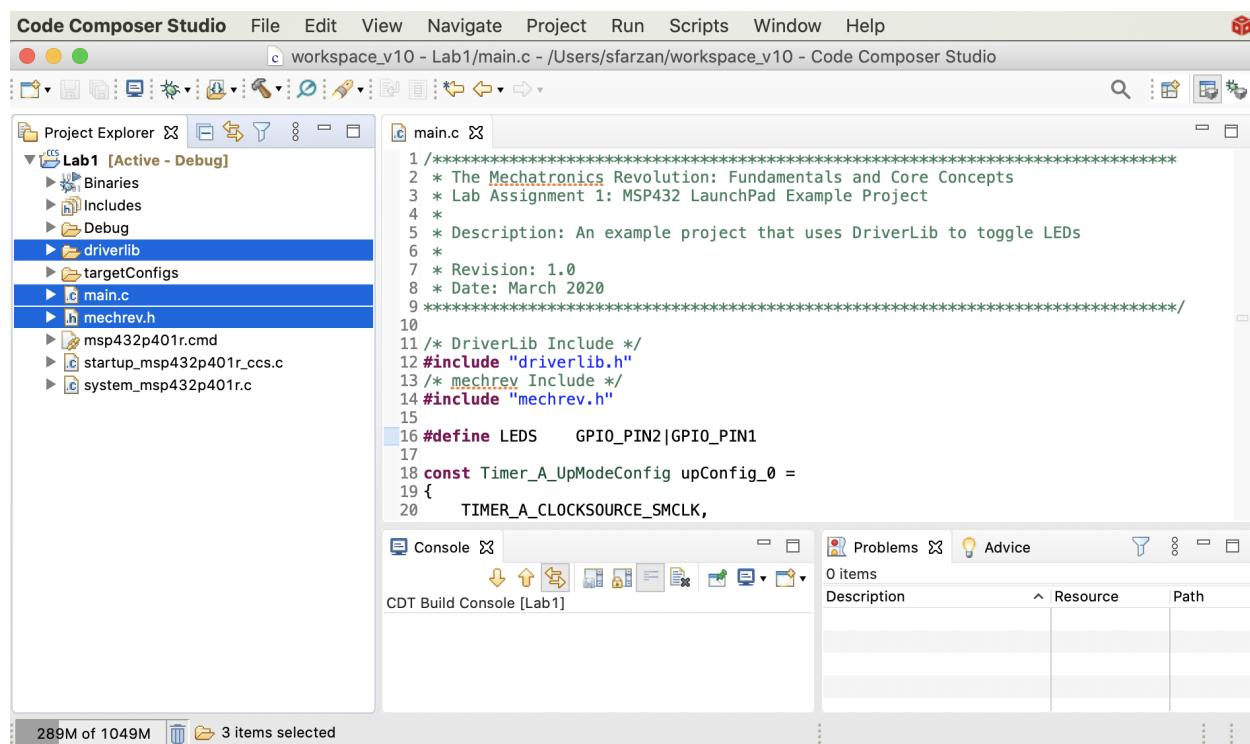

Figure 7: `main.c`, `mechrev.h` and `driverlib` copied into the project.
- On your computer, find the directory (folder) where the project is created (under the workspace folder). Copy and paste the `main.c` file, the `mechrev.h` header file and the `driverlib` folder into the Lab 1 project folder under the workspace. The original `main.c` source file will be replaced with the new one (Figure 7).